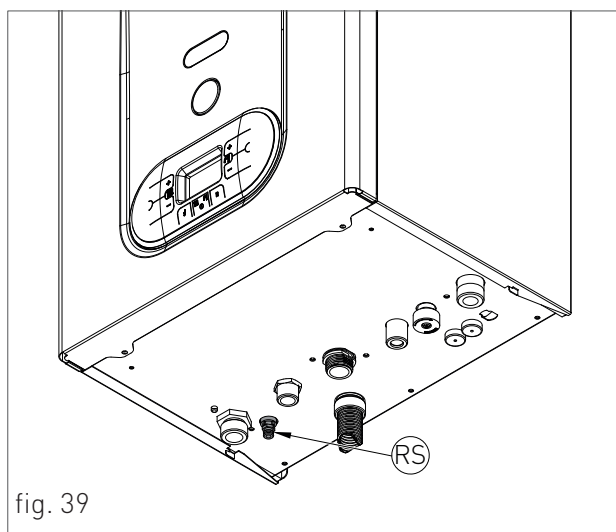

fig. 39
- › turn the discharge tap of the system ‘RS’ (fig. 39);